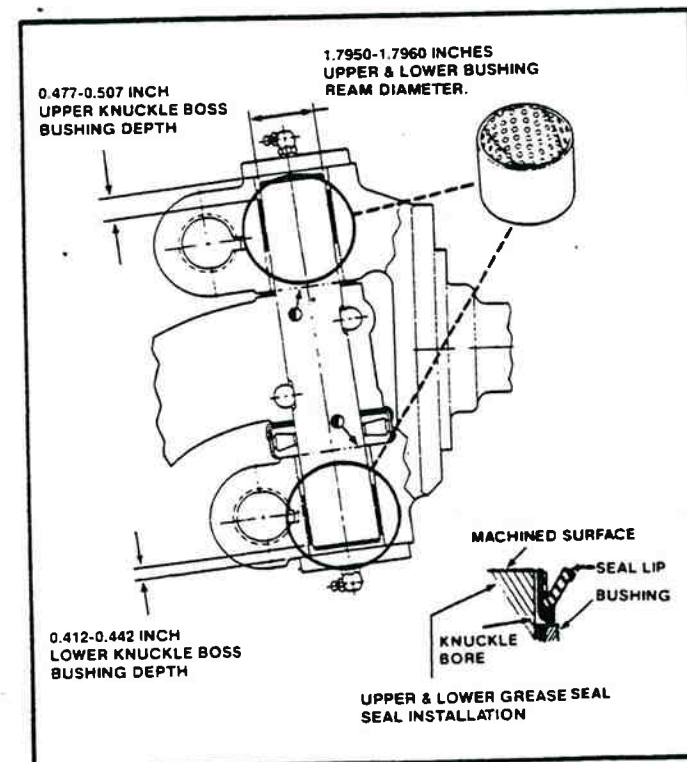

Figure 1-16. Easy Steer Bushing Installation and Grease Seal Installation.
2. The bushing can now be pressed to the desired depth of 0.477 inch to 0.507 inch from the top of the machined surface. See figure 1-16.
4. Press the lower bushing in to a depth of 0.412 to 0.442 inch from the bottom machined surface. See figure 1-16. **Do not install the grease seals until the reaming is completed.**